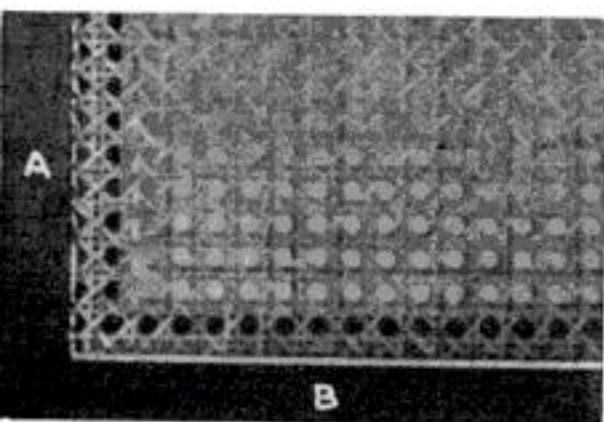

Fig. 5. Corner of a seat frame which shows webbing trimmed at A and spline inserted at B.
7. Drive the spline in with a mallet, protecting it with a block of wood. Be careful that the curved edge of the spline is not driven below the surface of the frame (Fig. 5).